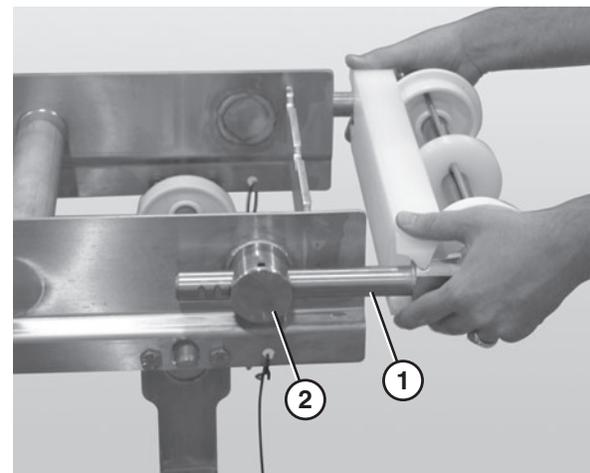

Figure 24
- Slide the bearing shafts (Figure 24, item 1) into the take up blocks (Figure 24, item 2).